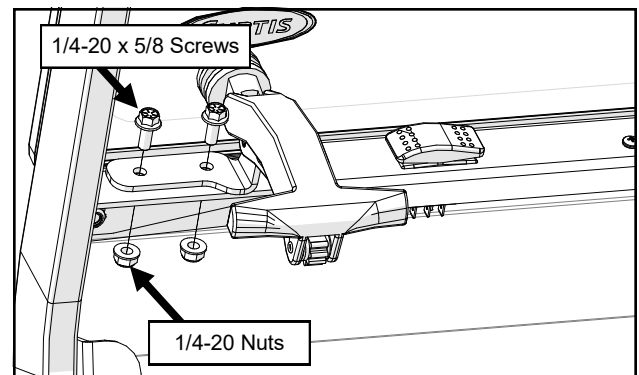

Fig. 13.3 (Secure Windshield Latches)
13.3 Secure the windshield latches to the side frames with the latches open, and tighten latch hardware. See Figure 13.3.